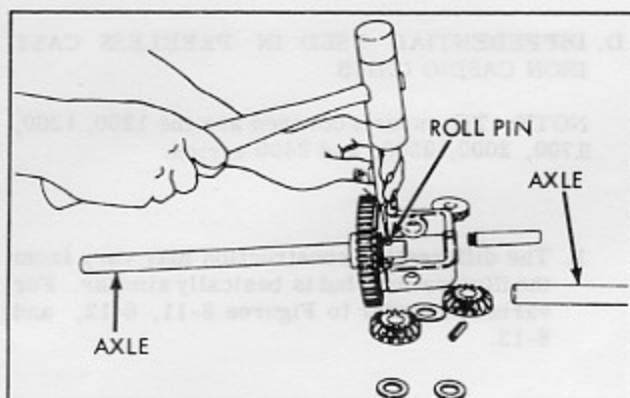

Figure 8-8
- (b) On roll pin drive models, install double roll pins into holes in each shaft. Place bevel gears on shaft. Roll pins fit into the recess in back of the gears, bevel gears must be seated tightly on the roll pins or binding will occur. See Figure 8-8.